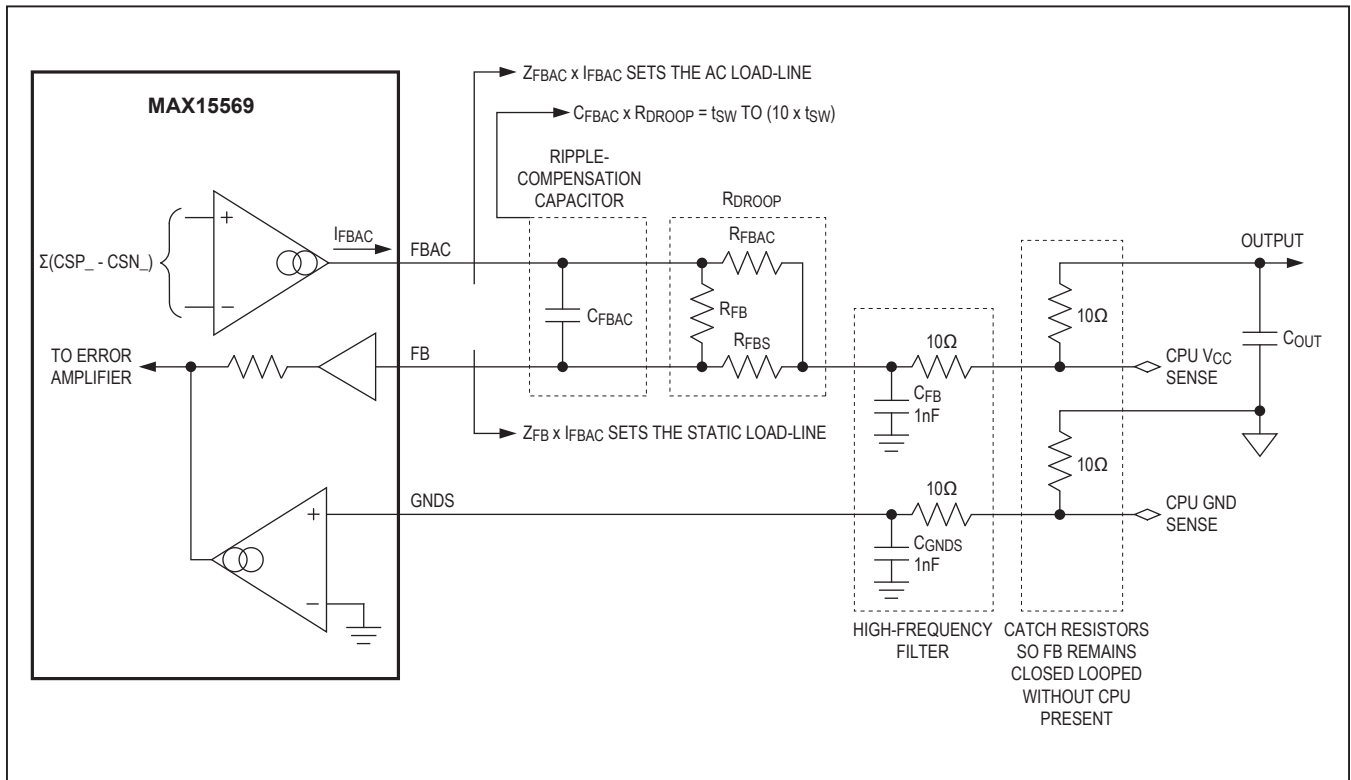

Figure 6. FB Network (Load-Line Control and Remote Sensing)
- An integrator on FB corrects for output ripple and ground-sense offset (see Figure 6).
\*See Figure 6.
The device includes differential, remote-sense inputs to eliminate the effects of voltage drops along the PCB traces and through the power pins of the processor. The feedback-sense node connects to the load-line resistor/capacitor network ( $R_{DROOP}/C_{FBAC}$ ). The ground-sense (GNDS) input connects to an amplifier that adjusts the feedback voltage to counteract the voltage drop in the ground plane. Connect the load-line resistor ( $R_{DROOP}$ ) and ground-sense (GNDS) input directly to the remote-sense outputs of the processor, as shown in Figure 6. The correction range is bounded to less than  $\pm 200\text{mV}$ . The remote-sense lines draw less than  $\pm 0.5\mu\text{A}$  to minimize the offset errors.